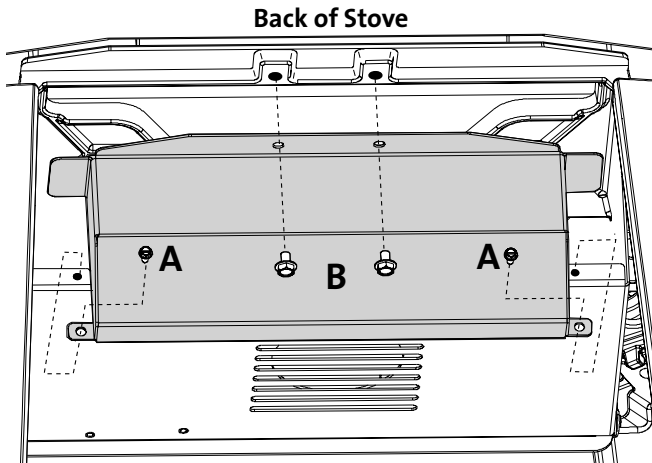

Figure 11.8. From the back of the stove, secure Blower Shroud to the stove bottom.
4. Attach the Blower Shroud to the side flanges at the rear of the cabinet floor using the two #8 X 12 mm sheet metal screws. See Fig. 11.8, (A). Attach the upper flange of the shroud to the stove bottom plate using the two, M8 x 15 mm hex bolts (B) from this kit.